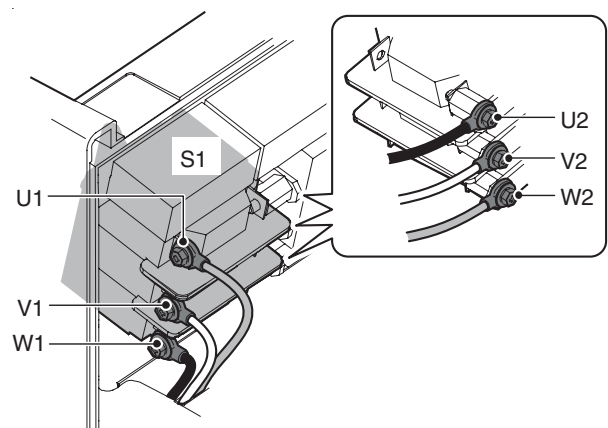

Figure 6-7: Check points U1, U2, V1, V2, W1 and W2
1. Verify input voltage (Phase-to-Phase) using an AC voltmeter. (The capability of the voltmeter should be more than 600VAC). Measure the point between lines U1 and V1 on the input switch, S1. Measure the point between lines U1 and W1 on the input switch, S1. Measure the point between lines V1 and W1 on the input switch, S1. The location of points U1, V1 and W1 on switch S1 are indicated in Figure 6-7. When using a single-phase connection, the voltage can be verified only between U1 and V1.
The location of points U2, V2 and W2 on switch S1 are indicated in Figure 6-7. When using a single-phase connection, the voltage can be verified only between U2 and V2.